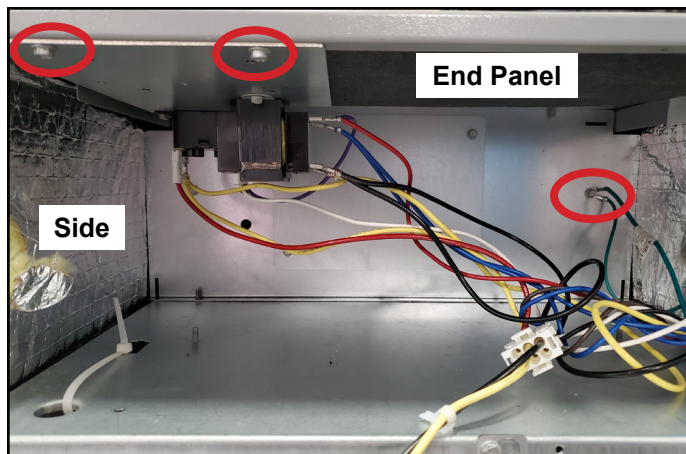

Figure 13. Control Panel Relocated to End Panel (Horizontal-Right Configuration)
To avoid the possibility of moisture damage to the control in some right-hand discharge configurations, the control panel can be relocated to the end panel as shown in Figure 13.
4. Screw ground wires to the electric heat mounting panel (Figure 13).